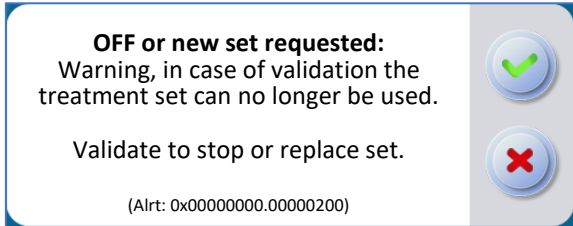

Figure 120: End of procedure activation
- The following message appears on the screen (see Figure 120):